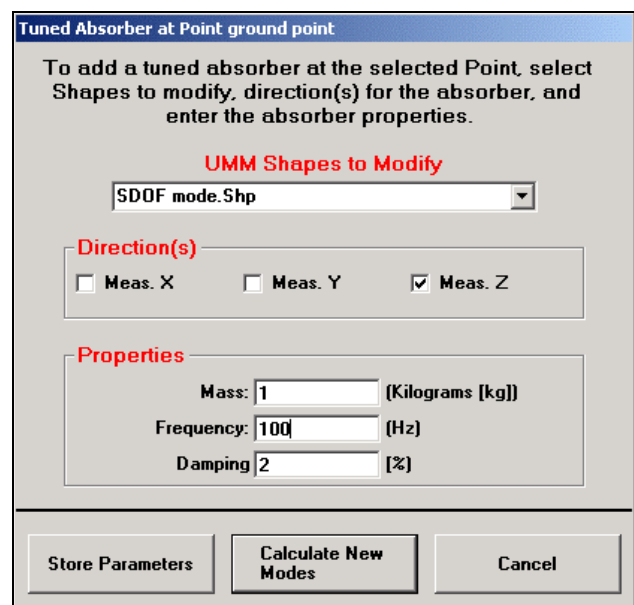

Figure 2. Tuned Absorber Dialog Box.
- Enter the parameters for a **1 Kilogram mass at 100 Hz with 2% damping** as shown in Figure 2.
- Make sure that the parameters are the same as those in Figure 2. (**1 Kilogram mass at 100 Hz with 2% damping**).